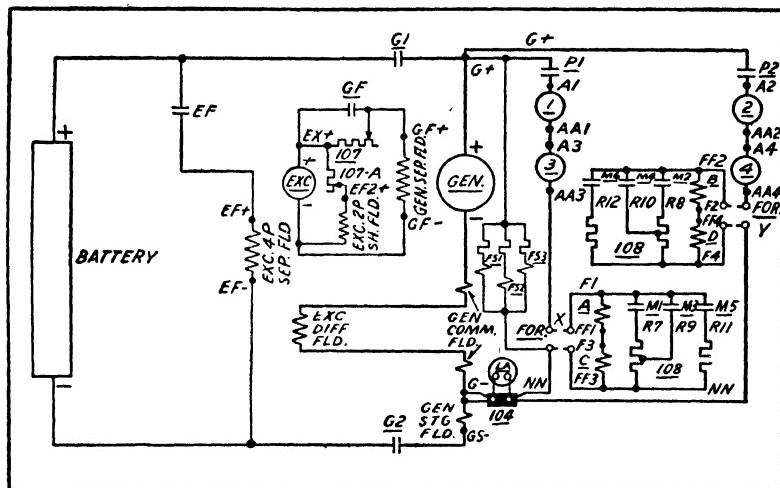
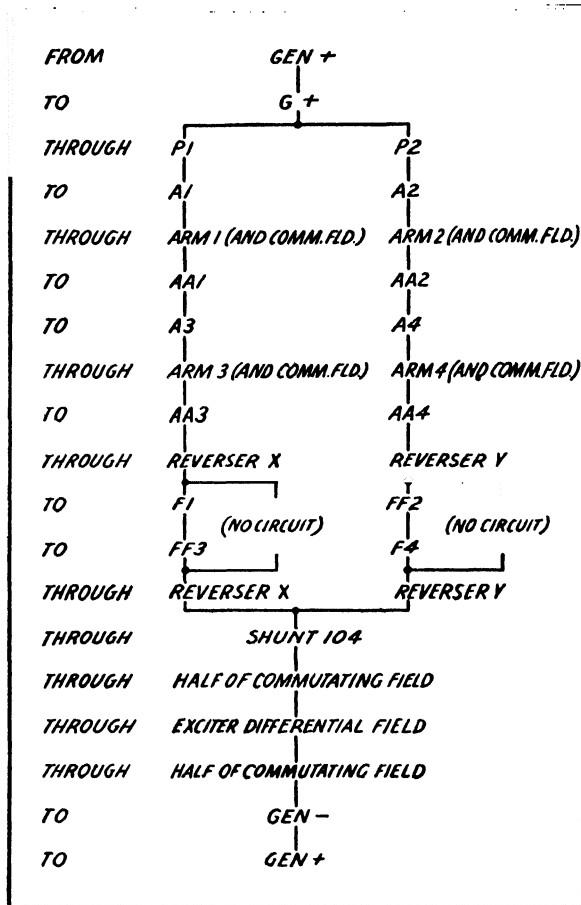
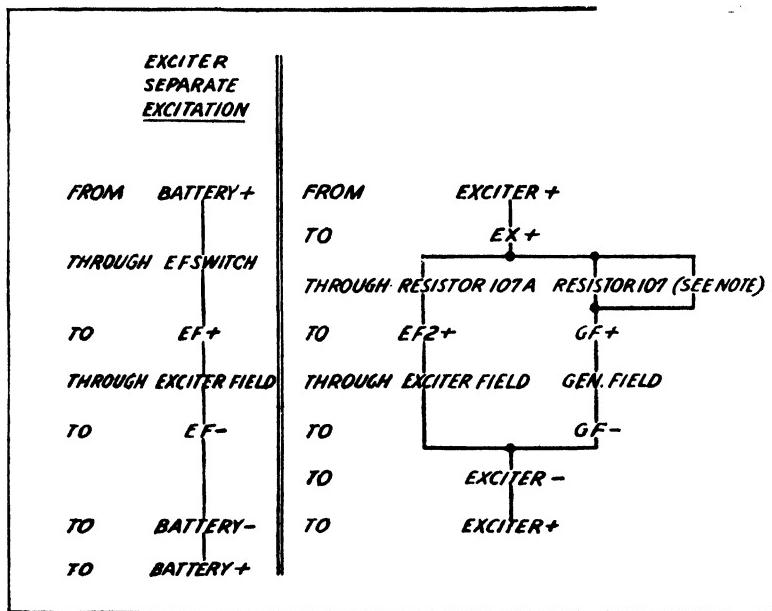

Fig. 30. Schematic Diagram of Main Circuits
Fig. 31. Tracing Through Main Circuits
Fig. 33. Tracing Through Exciter Circuits
Referring to Fig. 30, this diagram represents the main power circuits of a 1000 horsepower Diesel locomotive. Before following this through, it is necessary to identify each piece of apparatus. The various exciter and generator field coils are labeled and are readily distinguished. The other items are as follows:
*Figs. 31 to 34 show a method of following through the main power circuits of Fig. 30. Fig. 31 shows the first step in the application of propulsion power. As the train accelerates, it is desirable to*
Fig. 33 traces the excitation circuits of the main generator, as shown by Fig. 30. One other function is shown in Fig. 30—that of starting the Diesel engine by using the main generator as a motor,
The control circuits are somewhat more difficult to follow through because there are so many more of them. The prime purpose of control circuits, of course, is merely to cause the contactors in the main power circuits, Fig. 30, to close or open at the proper time, to move the reverser to the position which gives the desired direction of train movement, to control the engine speed, and to insure that the circuits cannot be improperly set up. Referring to the control circuit schematic, Fig. 35, the first step is to identify each piece of apparatus shown and to determine how it functions.
G2 OUT ..... Interlock-makes circuit when G2 contactor (see Fig. 30) is open (out).
When the voltage of the main generator reaches 600 volts, the FS1 relay closes (Fig. 30 shows three coils connected to be energized by the voltage of the main generator) and establishes a circuit from the FR wire (Fig. 35) to 23 wire, thereby energizing coils M1 and M2. Likewise, FS2 relay and FS3 relay bring in additional traction motor field shunting switches, M3, M4, M5, and M6 in two progressive steps as the generator voltage rises.
Figs. 30 to 38 illustrate the method of tracing out the circuits for the purpose of determining which of the relays, coils, and apparatus are energized or operated under the different control conditions. It is always necessary to consult the main circuit schematic diagram (such as Fig. 30) in following through the control circuit schematic (such as Fig. 35) in order to see what happens to the power delivery each time the coil of a switch is energized or a relay is operated.